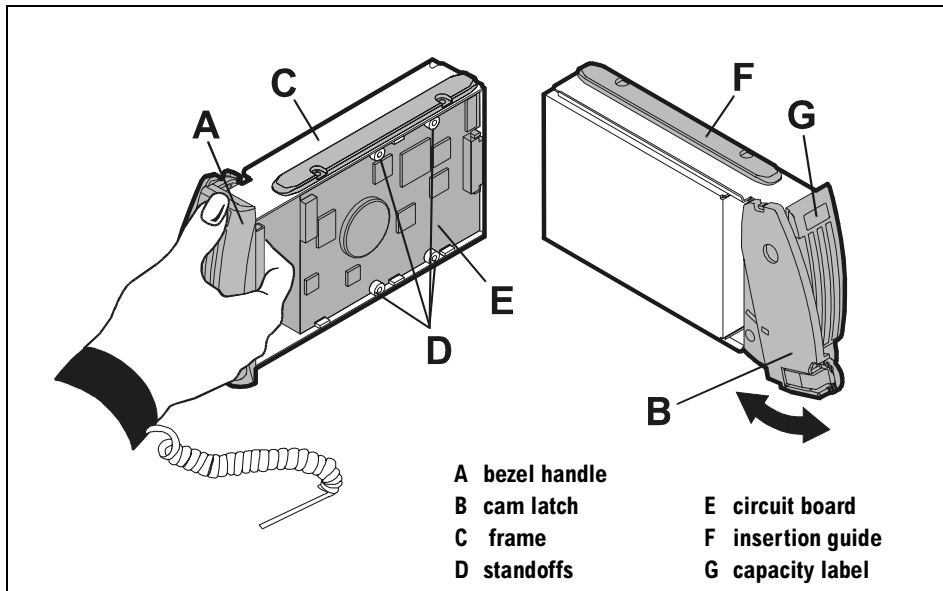

Figure 3 Disk
Disk modules, shown in Figure 3, are 3.5-inch Low Profile or Half Height disks in open metal carriers. The open carrier design requires careful handling to avoid disk damage by breakage and static electricity, and to prevent personal harm by contact with hot surfaces and static electricity.
- Bezel handle (A in Figure 3)
- Cam latch (B)
- Insertion guide (F)